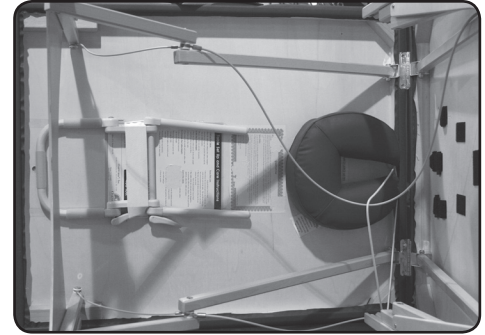

Fig. 1
Wooden Models without an arm rest shelf (Fig. 1)
- Separate the Face Crescent Pad from the Face Rest. Insert the Face Rest Platform half way thru the elastic strip attached to the plywood top of the table (as shown in Fig. 1).